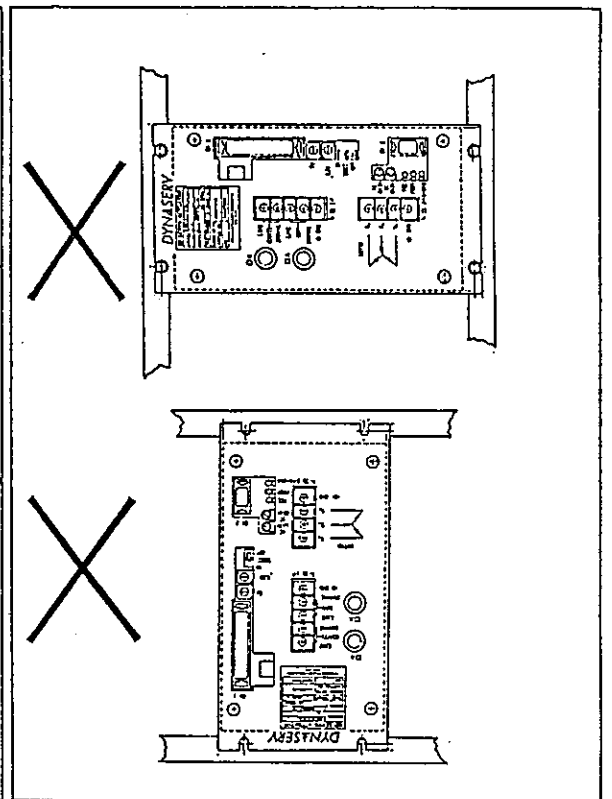

Figure 3.13
- Normally, the driver is mounted with its front panel facing forward and its top and bottom surfaces horizontal. However, it may be mounted with its front panel facing upward. Always avoid mounting it with its panel surface facing sideways or upside down. (See Figure 3.13.)